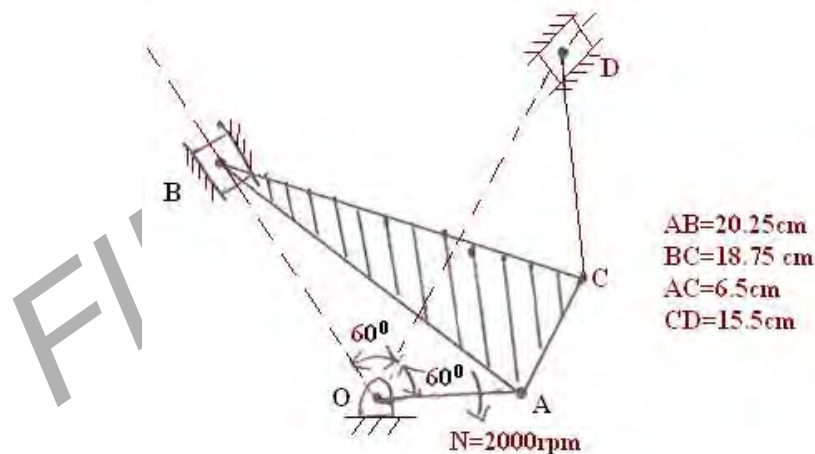

Figure 2
2. Find the velocity of point C and the angular velocity of link 3 of the push-link mechanism shown in the figure 2. Link 2 is the driver and rotates at 8 rad/s ccw. Use instant centre method. [16]